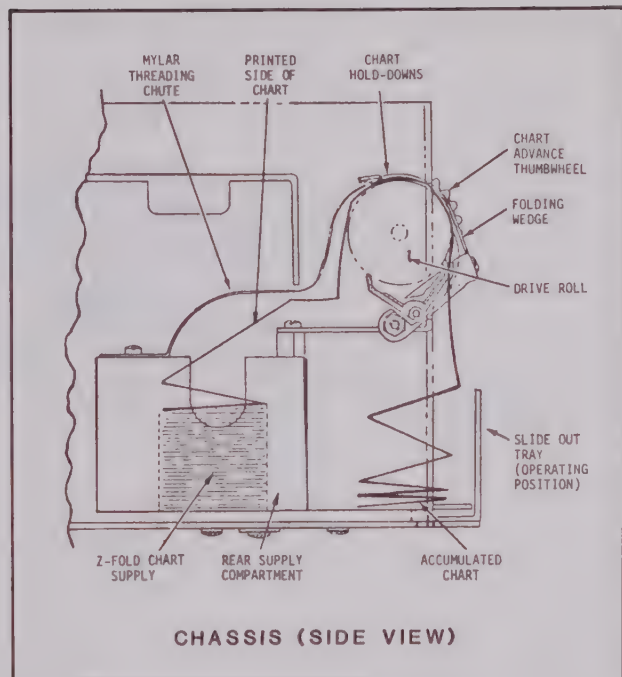

Figure 2-2. Chart Threading Diagram with Tray Closed.
To install chart paper in the recorder, refer to the chart threading illustration in Figure 2-2 and proceed with the following steps:
(1) Open front door and slide into top of recorder case. Place main POWER switch in its OFF (left-hand) position. Grasp lower edge of scaleplate and swing plate outward and upward to remove it from top retaining clips.
(2) Raise pen holder(s) using Pen Lift lever. Grasp front of chart tray at bottom of recorder and slide tray fully outward until it stops.
(3) Remove Z-fold chart from its container. To help paper feed more freely, grasp chart pack and fan one end of sheets; then repeat at opposite end.
(4) Orient pack so that edge with elongated holes is on left-hand side and printed side of paper will face recorder as chart unfolds from top of pack. Bend pack at angle and insert it into rear supply compartment through opening on right side of tray.
(5) Lift out a few folds of chart from top of supply pack and insert leading edge of paper back between Mylar threading chute and drive roll.
(6) Rotate Chart Advance Thumbwheel downward and thread chart over top of drive roll. See that drive roll pins engage chart holes at both sides. Guide leading edge of chart behind folding wedge located in front of drive roll.
(7) Slide chart tray back into recorder. Continue to rotate thumbwheel until several paper folds enter front accumulator compartment of tray (Figure 2-2).